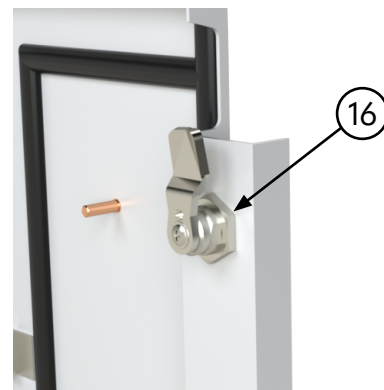

Figure 11
- Take the earth nut (Item 16) and, from the back of the door, install it over the quarter-turn latch and hand-tighten. Refer to Figure 11.